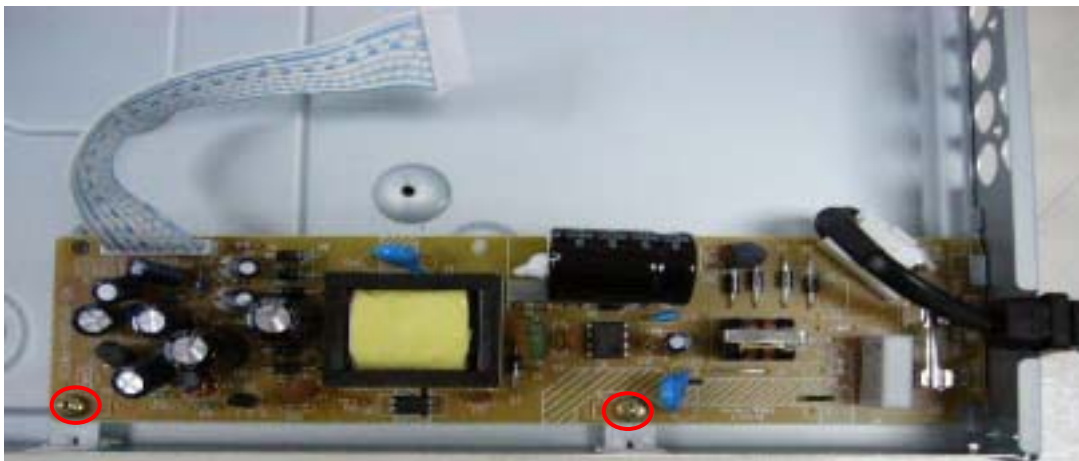

Figure 8
Step7: Remove the 3 screws on power board to dismantle the powerboard. (Figure8)